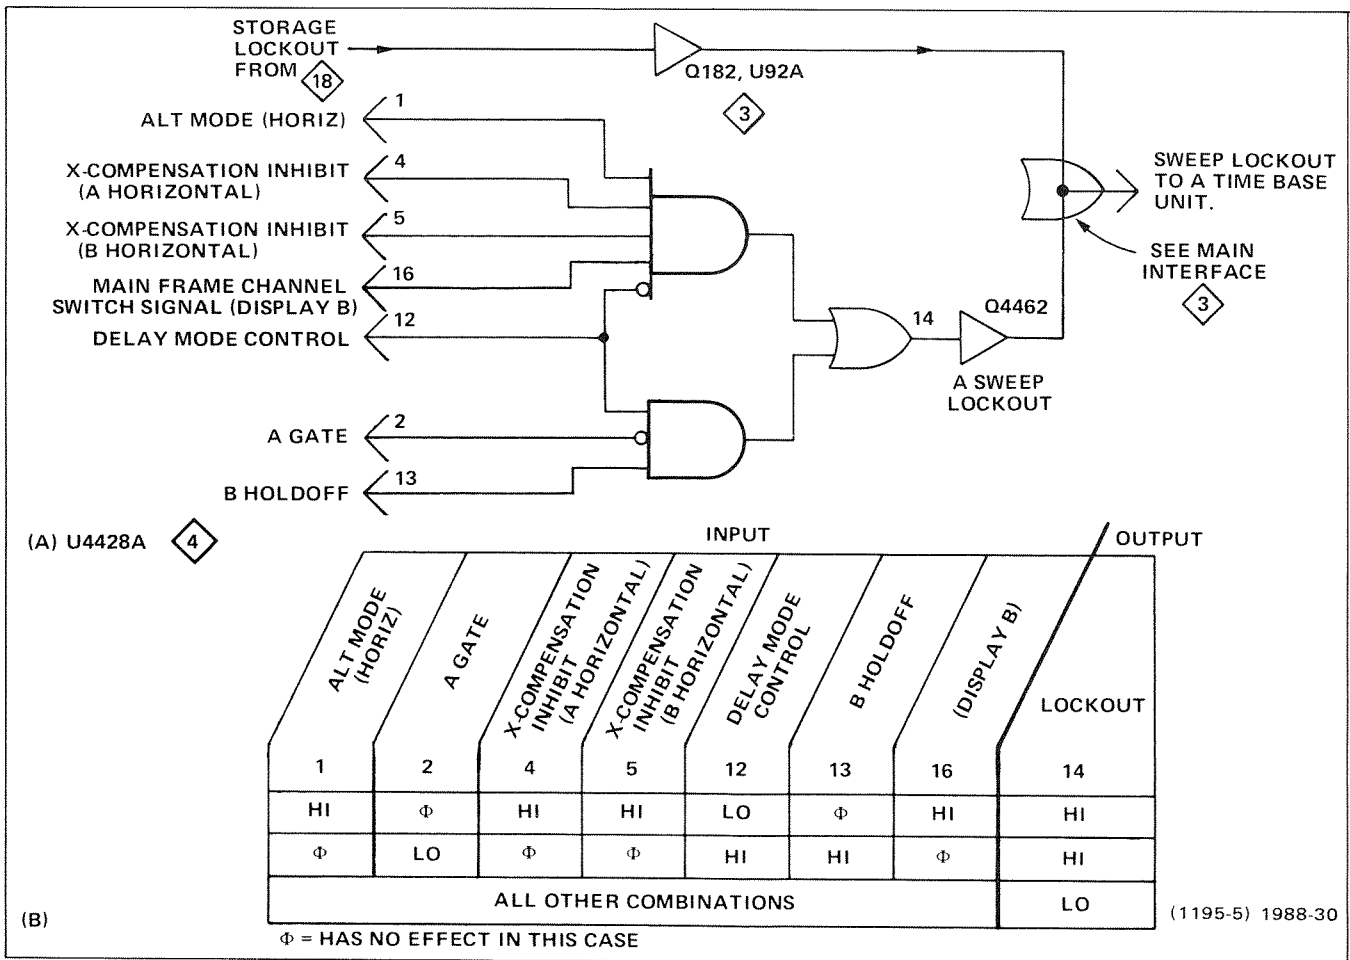

Figure 3-5. (A) Logic diagram for A Sweep Lockout Stage; (B) Table of input/output combinations.
As shown by the logic diagram and input/output table of Figure 3-5, only two combinations of input conditions to U4428 produce an A Sweep Lockout level (HI).